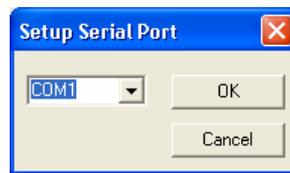

Figure 39 - Setup Serial Port Dialog
1. Choose **Setup** → **Serial Port** from the main menu. The Setup Serial Port Dialog (Figure 39) appears.